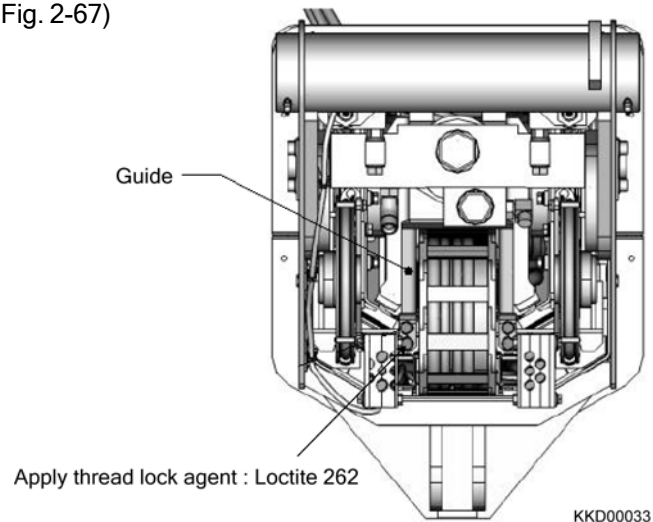

Fig. 2-67
12) Install the guide. (Fig. 2-67)